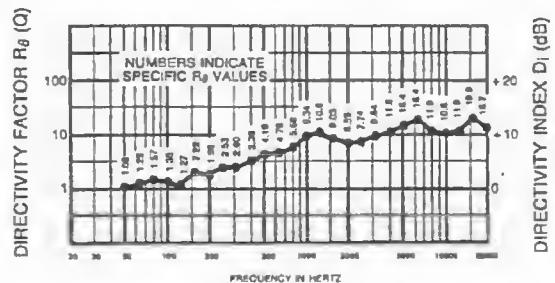

FIGURE 7 — DML-1122/DMC-1122 Directivity
1.0-20 kHz median (see Figure 7)